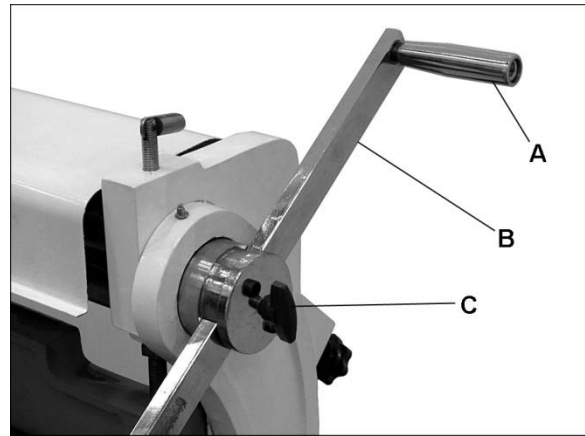
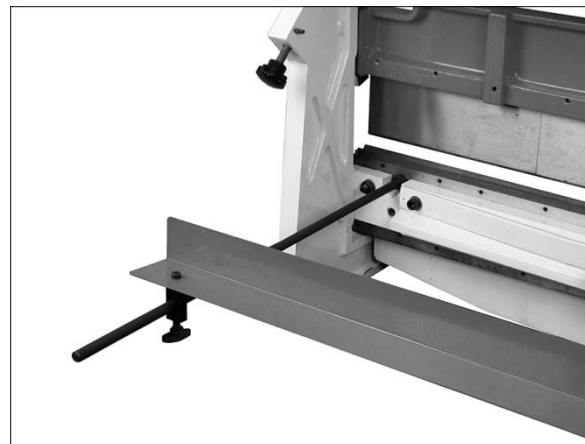
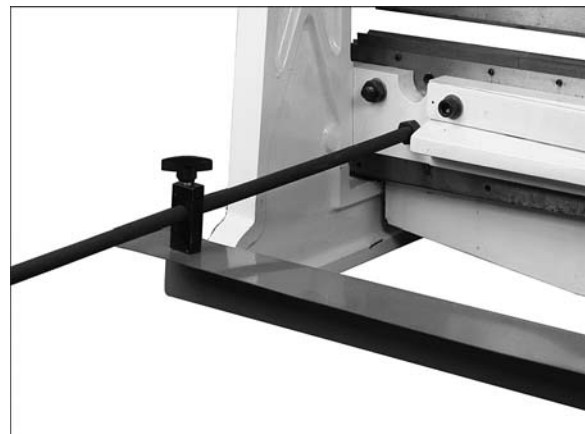

Figure 3
Figure 4
Figure 5
7. Remove one handle (A, Figure 3) from each operating handle assembly, using 8mm hex key.
8. Loosen lock bolt (C, Figure 3).
9. Slide bar (B) into hub and tighten lock bolt (C) to secure.
10. Re-install handle (A).
11. Install both *guide rods* into either the upper or lower set of threaded holes (Figures 4/5) and tighten the setting by rotating *hex nut* against the cast base of the machine with 19mm wrench.
NOTE: For brake operation, install guide rods into upper set of holes (Figure 4); for shear operation, install in lower set of holes (Figure 5).
12. Install *guide plate* as shown in Figures 4 or 5. Secure it to rods using the T-handles.
4. Select upper dies (E) for desired job and remove the others by sliding them out the left end.
6. Securely re-tighten all screws (Figure 4), then release and remove wood strip.
7. If making repeated bends or using a long workpiece, position guide rods and plate for brake operation, as shown in Figure 4.
1. Install guide rods and plate in shear position (Figure 5) and adjust to desired length of workpiece cut.